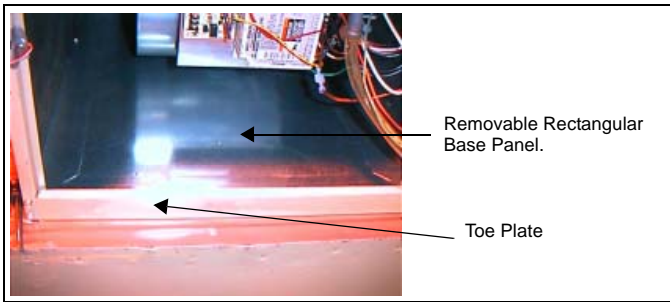

FIGURE 2: Furnace Base Rectangular Blockoff Panel
2. Remove the toe plate. See Figure 2.